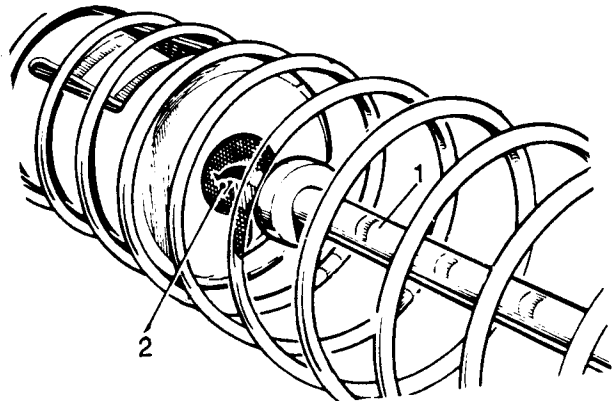

Fig H3.20
- (7) Refer to Fig H3.20. Compress the spring and position the valve stem (1) to align with the larger hole (2) in the spring retainer.